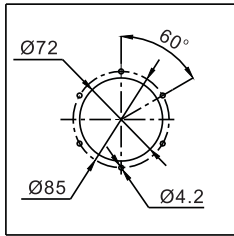
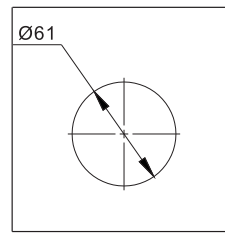

Figure 8
Figure 12
2. Drill holes on the pool wall (Figure 8 and Figure 12).